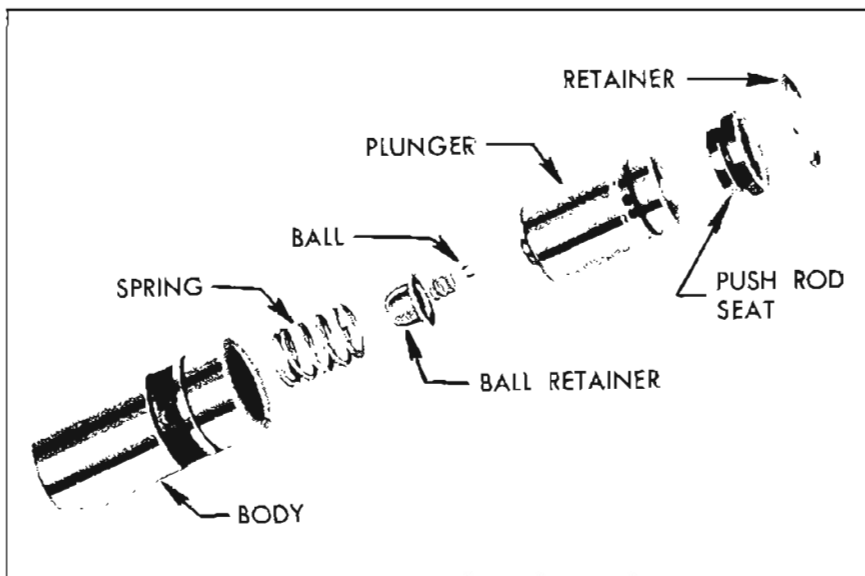

Figure 2-37—Hydraulic Valve Lifter Parts
2. Hold plunger in vertical position with feed hole up, then rinse and install the check ball, check ball spring, ball retainer, spring, and body over the plunger. See parts in Figure 2-37.
4. Lower the ram to rest in the lifter push rod seat, then lower the weight arm to rest on the roller of ram as shown in Figure 2-37.